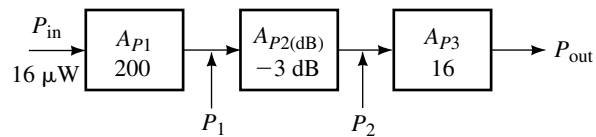

FIGURE 22–44
17. Calculate the power levels (in dBm) at the output of each of the stages of the system shown in Figure 22–44. Solve for the output power (in watts).
18. Calculate the power levels (in dBm) at the indicated locations of the system shown in Figure 22–45. Solve for the input and output powers (in watts).
19. Given that power $P_2 = 140 \text{ mW}$ as shown in Figure 22–46. Calculate the power levels (in dBm) at each of the indicated locations. Solve for the voltage across the load resistor, R_L .